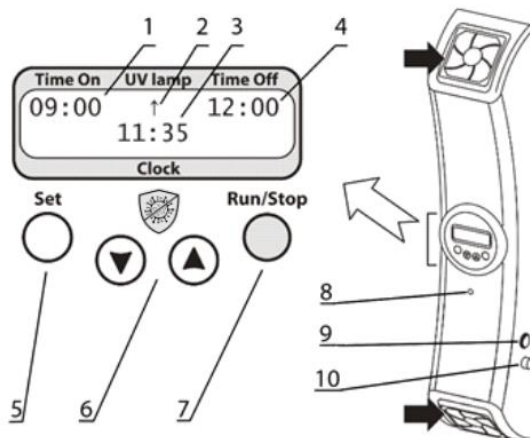

Figure 5. UVR-Mi control panel and overview
5.2.1 Plug the power cord to a grounded mains socket. Switch on the power switch (fig. 5/9) on the side to the right.
- Air flow recirculation start time in the automatic mode - Time On (fig. 5/1);
- Air flow recirculation end time in the automatic mode - Time Off (fig. 5/4);
- UV-recirculator operating indicator - UV lamp (fig. 5/2);
- Real time clock (fig. 5/3).
5.2.3 **Parameter setting.** Hold the **Set** key (fig. 5/5) pressed for more than 6 seconds to activate parameter setting mode.
5.2.3.1 Change the currently flashing parameter using the ▼ and ▲ keys (fig. 5/6). Pressing the key down longer than 2 seconds makes the values change quicker.
5.2.4.1 **Manual mode.** Press the **Run/Stop** key (fig. 5/7) to start or stop recirculation. While recirculator is working, symbol “↑” indication is shown on the display (fig. 5/2).
5.2.4.2 **Automatic mode.** Set recirculation start (**Time On**, fig. 5/1) and end (**Time Off**, fig. 5/4) times, as described in 5.2.3. Unit saves the parameters after unplugging. On set start time, a powered unit starts recirculator, if it was not started already. On reaching the end time, unit turns off the recirculator.
- 5.2.7 End of lamp lifetime and lamp failure.** At the end of lamp lifetime (9000 h) or in case of UV lamp failure, unit terminates operation and does not resume until lamps are replaced. Display shows “END OF UV LAMP LIFETIME” or “ERROR UV LAMP FAILURE” messages, respectively. Additionally, check the indicator (fig. 5/8) to see if the lamps are working. To replace the lamps, see **8.3**.